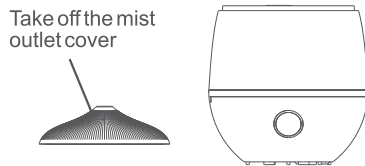
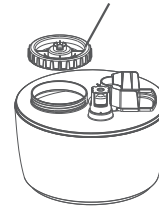

Fig.1
Fig.2
- 1) Take off the mist outlet cover and put it aside (see Fig.1);
- 2) Lift up the water tank and turn the water tank nut in counter-clockwise direction. Take off the water tank nut (see Fig.2). Then add water into the water tank. After it is filled with water, turn the water tank nut in clockwise direction to tighten it up;
When moving the humidifier, always hold the device by the base (Fig. 1), in order to avoid the fall of the part of the device, with the main electronic components. If there is water in the device, in order to avoid its entry into the electronic units through the air outlet (Fig. 2), keep it horizontal.